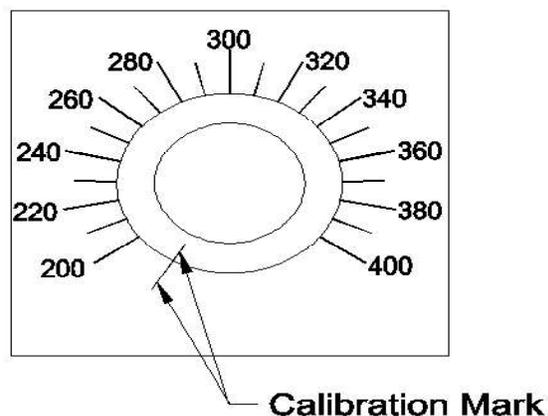

Fig. 1
1. Calibrate by aligning the line on the control knob with the calibration line on the scale plate (See Fig. 1).
7. Thermostat damaged, incorrectly calibrated, or not submerged in heat transfer oil- Check and correct. (See Fig 1 page 7)